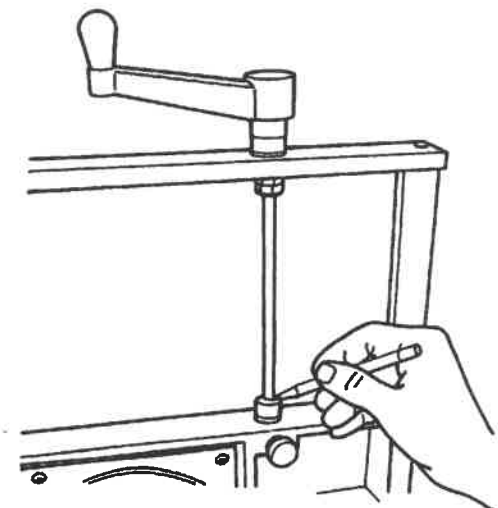
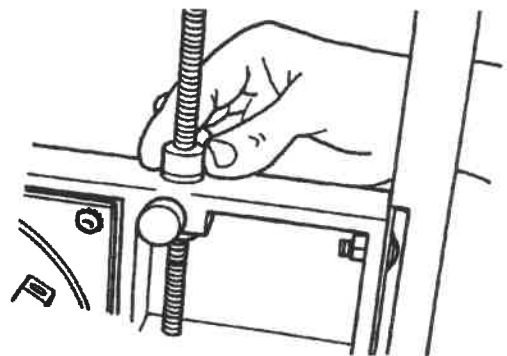

Fig. B-10
Fig. B-11
11. Once you have re-adjusted the top of the bit to be level with the work surface, finger tighten the adjuster nut (22) on the slide screw (17). Make sure the crank does not move out of parallel with the header bar (15). Make a pencil mark on top of the nut in line with the knob in the top bushing (shown in Fig. B-10), then back it off (turn it counter-clockwise) exactly 1/2 turn. Tension will be maintained by a spring under the nut. See Fig. B-11.
12. Finger tighten the knob (23) in the slide (11). Do not over-tighten.